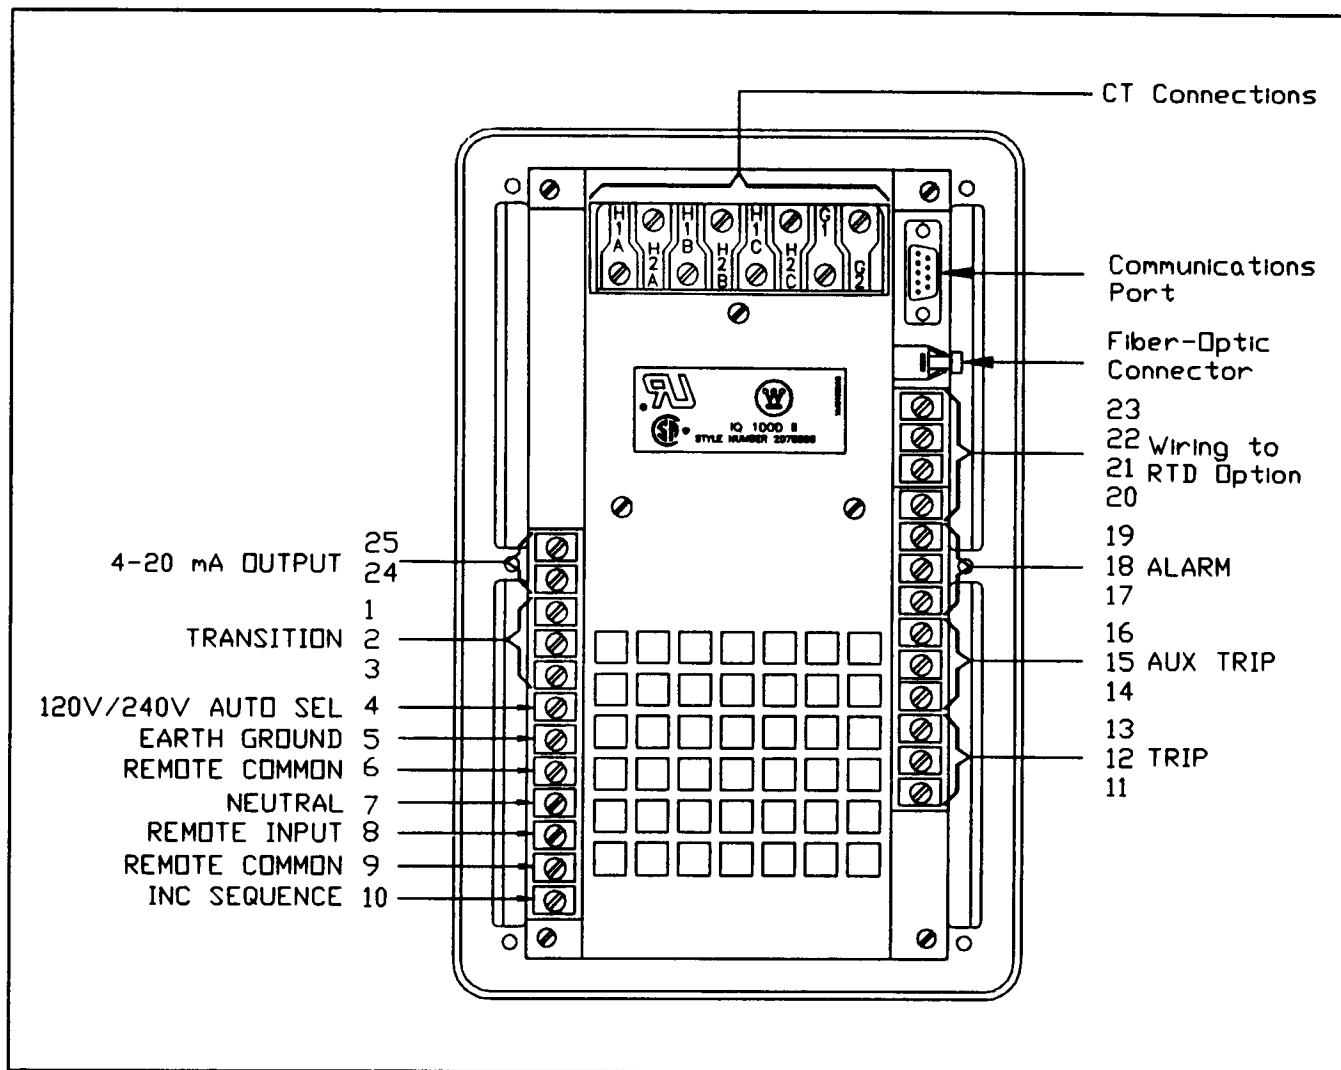

Figure 7.8 — IQ-1000 II Rear Panel Terminals
7.4.2 Output Contacts — The IQ-1000 II's output contacts correspond to the externally accessible terminals of the internal relays, as shown in Figure 7.8. These are all rated as: